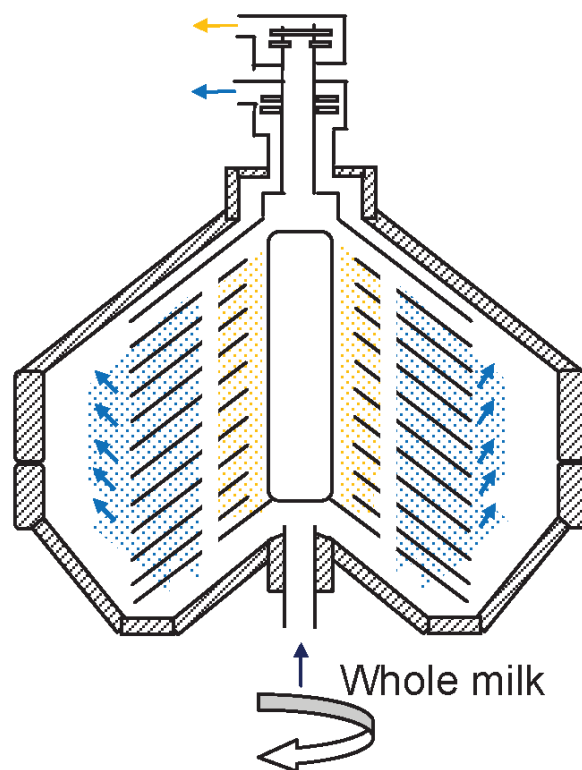

Fig.5.7. Bottom feed cream separator
- **Bottom feed:** Milk is fed at the bottom of bowl through the hollow spindle (Fig.5.7).